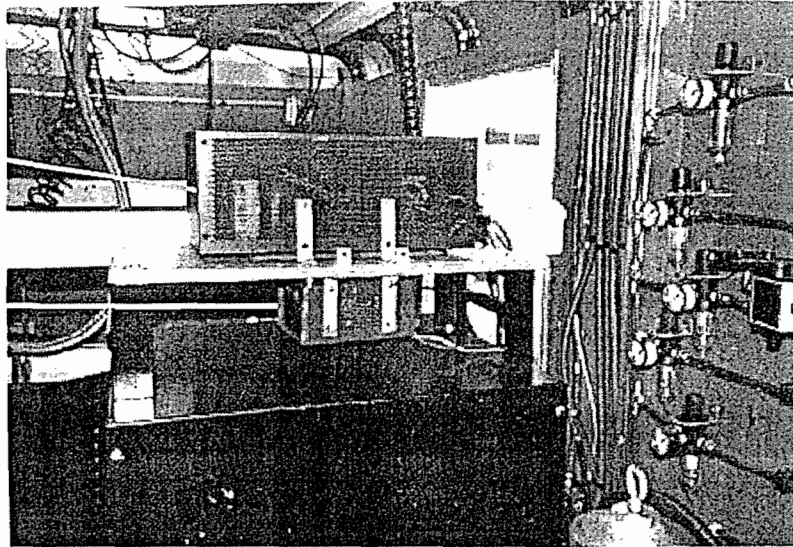

Figure 2.3.4: Power Conditioner and Power Transformer
2.3.10 Turn the power conditioner on. Turn the power transformer (located below the power conditioner) on. (Figure 2.3.4)